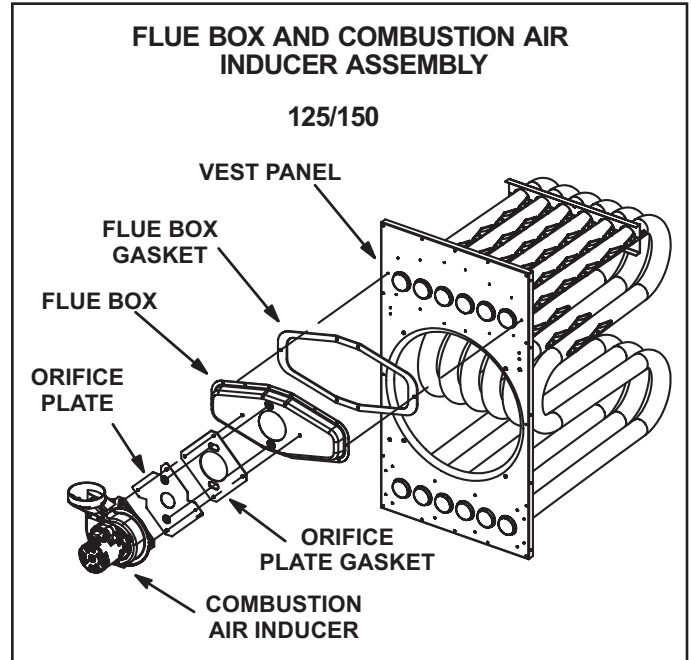

FIGURE 3
- 3 - Before making an electrical or gas connections, use a socket to remove the four screws which secure the combustion air inducer to the flue box. See figure 3.
- 1 - These unit heaters are to be used with NFPA- or ANSI-approved chimneys or U.L.-listed type B-1 gas vents, or listed chimney lining systems for gas venting where applicable, as well as the modifications and limitations listed in figure 3. Seal single-wall vent material according to **General Recommendations and Requirements** section.